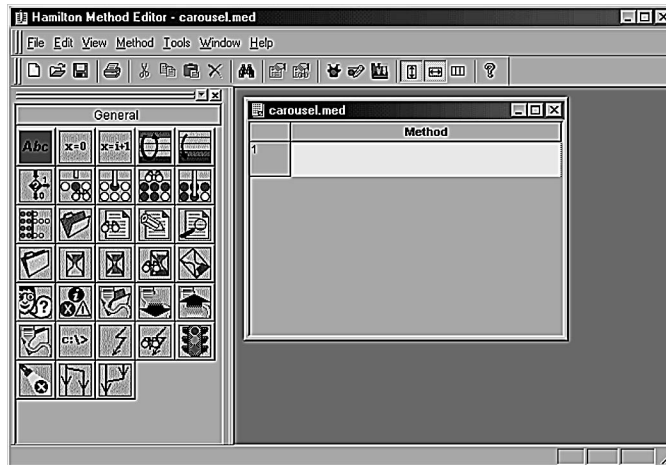

Figure 16: Hamilton Method Editor - Carousel.med window
3. The screen will show a cluster of General command icons on the left and a blank method on the right (figures 16). No instrument specific commands are immediately available. You need to select an instrument from the Hamilton Method Editor window.